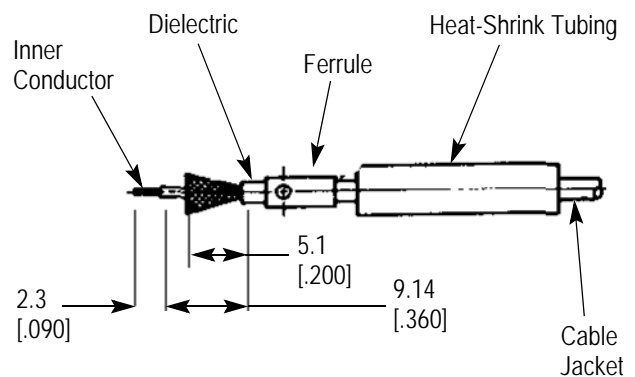

Figure 3
### 2.1. Preparing the Coaxial Cable End (Figure 3)
3. Trim the braid to the length shown in Figure 3.